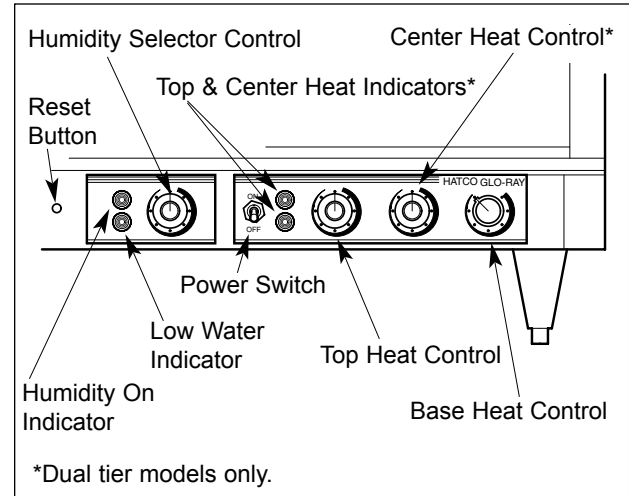

Figure 12. Control Panel – Humidified Models
3. Turn the Power Switch to the ON position. See Figure 12.